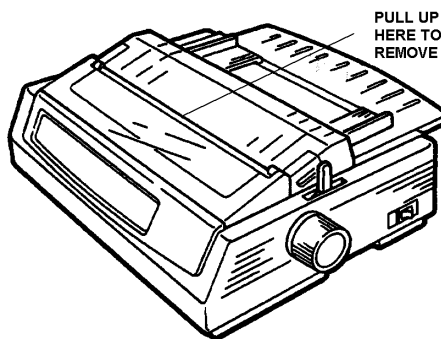

Figure 2, Ribbon Cartridge Inspection Cover Removal
19. Referring to Figure 2, remove the Ribbon Cartridge Inspection Cover, by gently pulling up on the middle of this cover until it pops off.